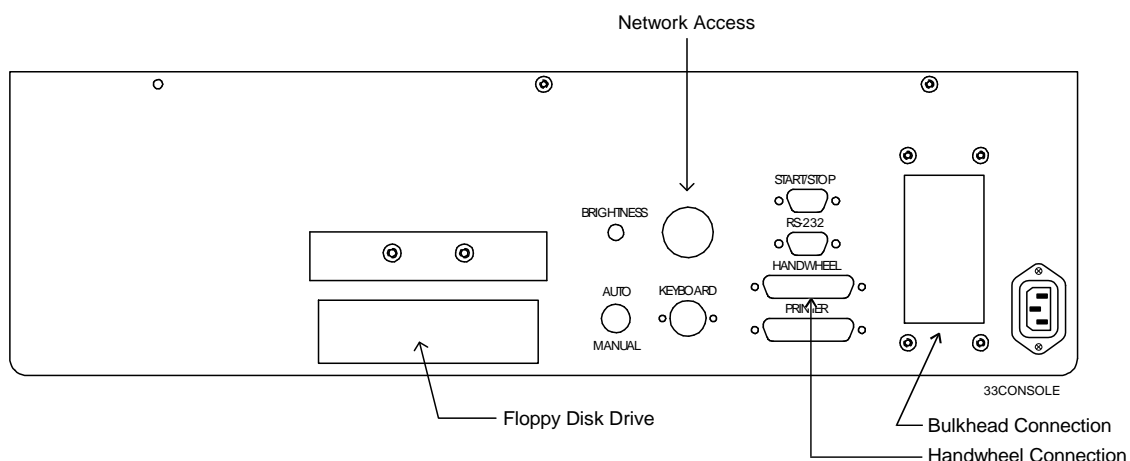

Figure 3-40, Console Lower Rear Panel
6. Feed the network cable through the appropriate hole in the rear cover of the console. Refer to **Figure 3-40**.
3. Plug the remote start/stop cable into the back of the console at the START/STOP connector. Refer to **Figure 3-40, Console Lower Rear Panel**.
5. Plug the Handy Pulser cable into the Handwheel connector on the console. Refer to **Figure 3-40, Console Lower Rear Panel**. Hand-tighten both screws on the connector.